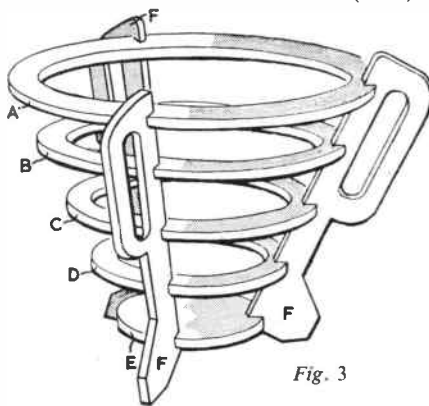
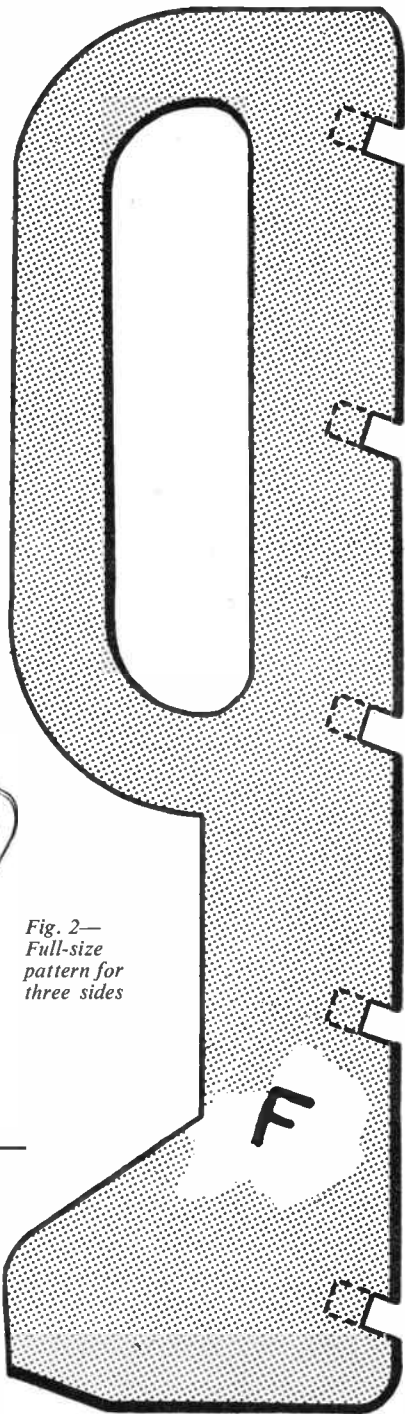

Fig. 3
Fig. 2—
Three sides (F) are required and these are shown full size in Fig. 2. Trace and transfer to $\frac{3}{8}$ in. wood by means of carbon paper. When all the pieces have been cut, clean up with glasspaper and glue together as indicated in Fig. 3. Note that the notches in the rings fit into the notches in the sides. Scrape away any excess glue. Lay it on one side for twenty-four hours before painting.